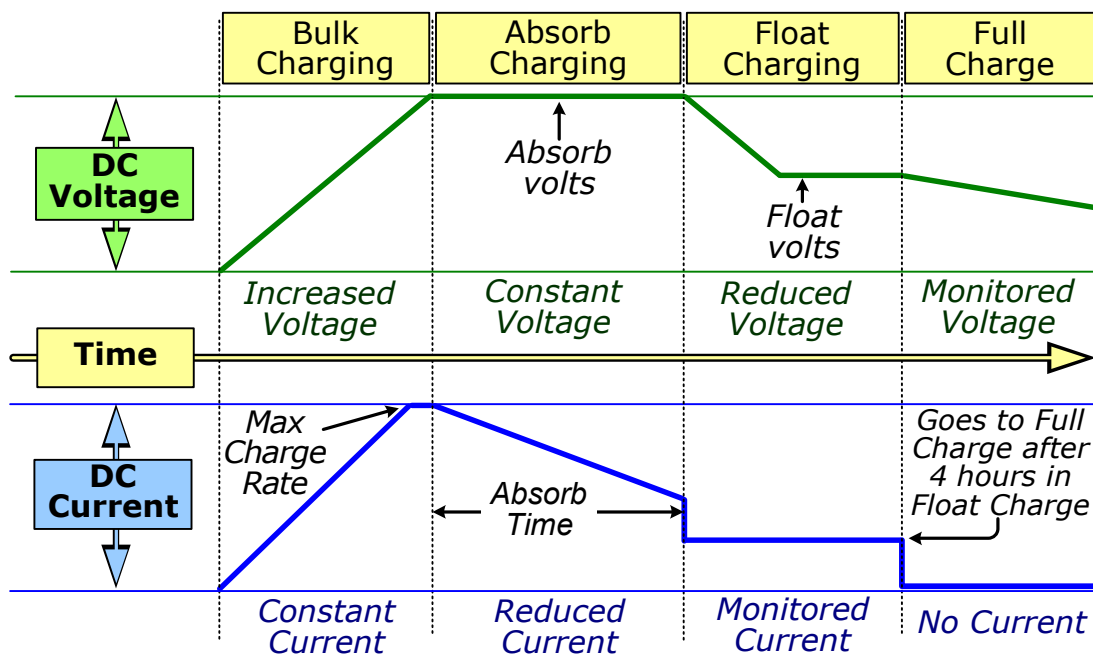

Figure 3-7, Automatic 4-Stage Charging Graph
The multi-stage charger in the MS Series can use up to five different charging stages to help monitor and keep the batteries healthy. The five stages include an automatic 4-stage charging process (Figure 3-7)—Bulk, Absorb, Float, and Full Charge—and a manual Equalization (EQ) charge stage. The automatic 4-stage charge process provides complete recharging and monitoring of the batteries without damage due to overcharging. The EQ stage (requires a remote control display to enable) can be used to stir up stratified electrolyte and to reverse any battery plate sulfation that may have occurred—if recommended by your battery's manufacturer.
The Charge mode provides up to four separate charging stages: Bulk Charging, Absorb Charging, Float Charging and Full Charge (Figure 3-7).